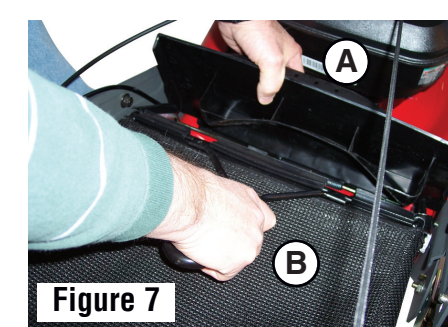
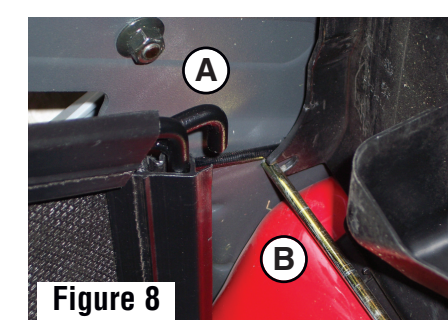

Figure 7
Figure 8
- Lift the rear door (A, Figure 7).
- Holding the rear door open, attach the grass catcher (B) to the rear of the mower.
- Make sure the hooks (A, Figure 8) on either side of the catcher frame hook onto the rear door rod (B).